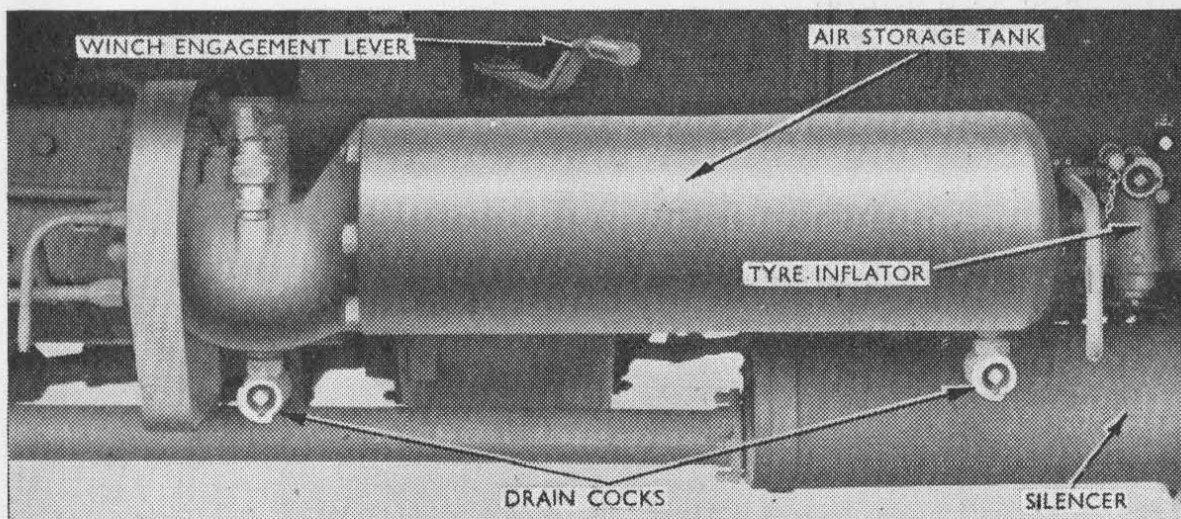

Fig. 7. Air Storage Tank (Westinghouse).
- (vii) Open both drain cocks on air storage tank (*Figs. 7 and 8*), until clear of all air and moisture, then close and remove handles. The handles can only be removed when the cocks are closed.